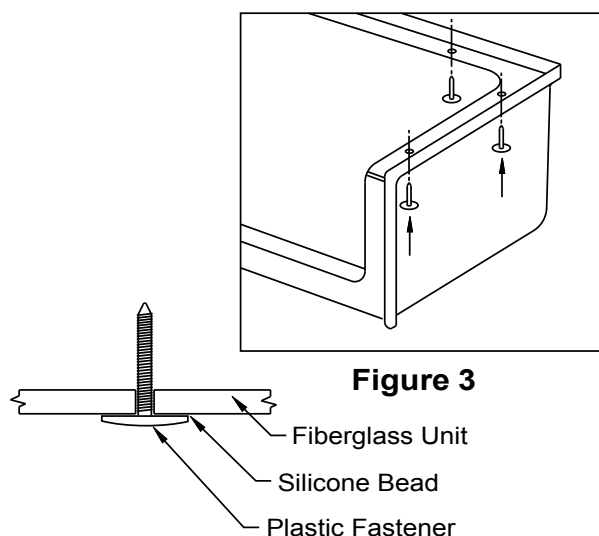

Figure 3
2. Apply a bead of silicone to the inside head of the plastic fasteners. Insert the plastic fasteners in the holes on the base ledge coming in from the bottom (outside) and pushing them upward so they point toward the ceiling. See Figure 3.